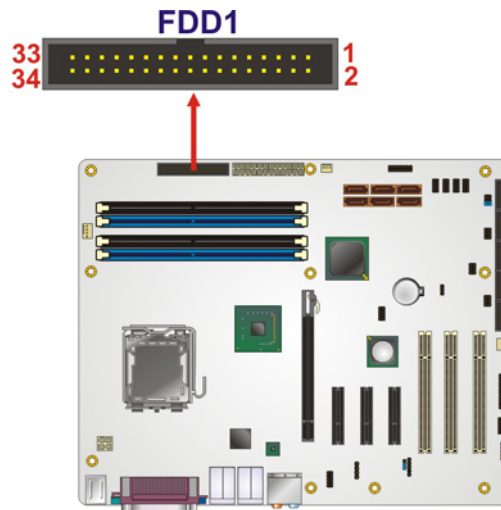

Figure 4-9: 34-pin FDD Connector Location
- CN Location:** See **Figure 4-9**